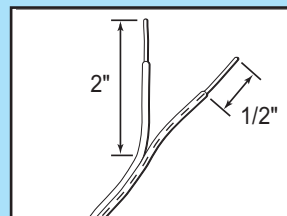

FIG. 4-7 Splitting and stripping.
- Split and strip ends of sensor wires and pre-wired wires (Fig. 4-7).
### 4. Split and strip ends of sensor wires (Fig. 4-7).